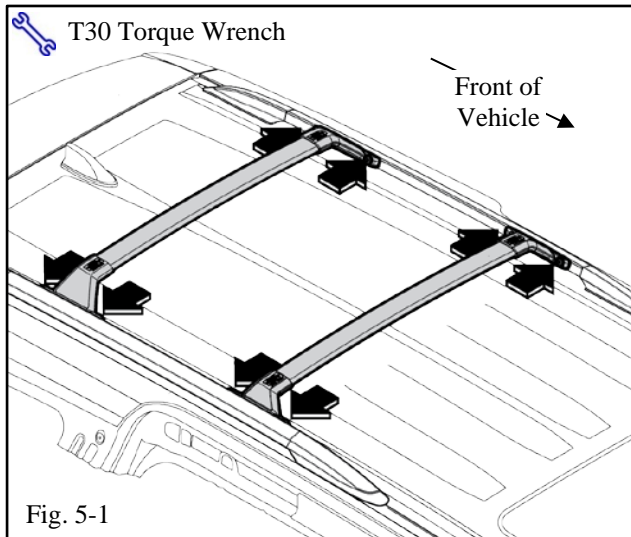

Fig. 5-1
- (a) Re-torque all shoulder bolts (8pcs.) to 8N·m (71in·lb) (Fig. 5-1).